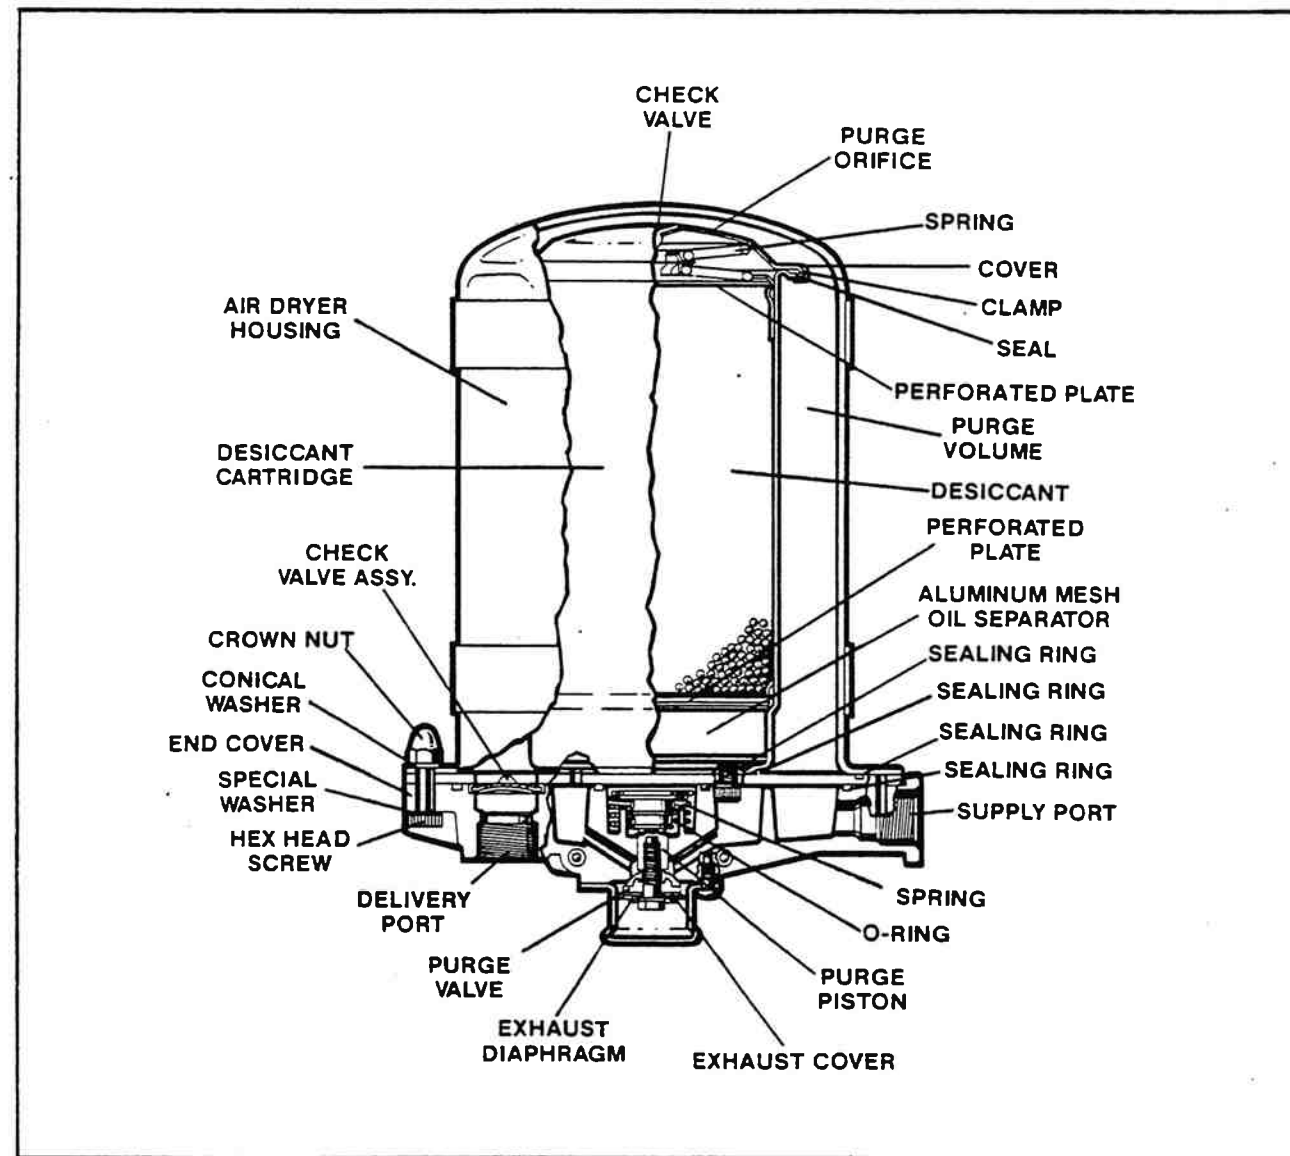

Figure 4-61. AD-4 Air Dryer Cross Section.
6. Refer to figures 4-61 and 4-62. Loosen the two  $\frac{5}{16}$  x  $4\frac{1}{2}$ " hex bolts securing the mounting straps on the back side of the dryer. Disengage the mounting bracket hook from the end cover.